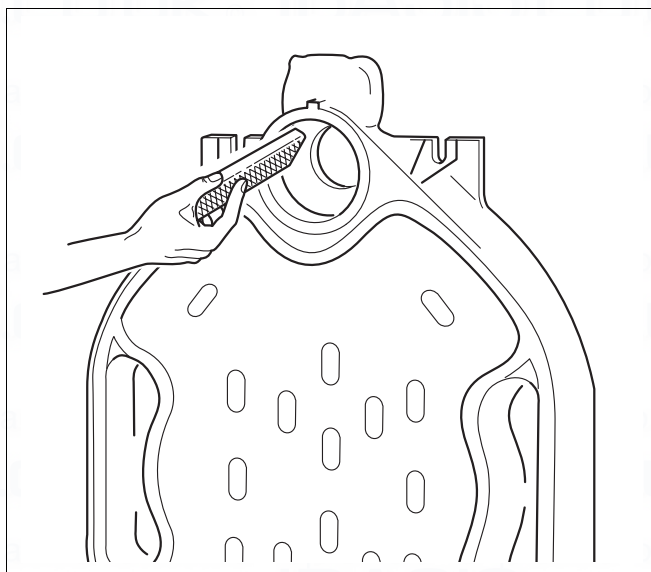

Fig. 7 Filing off flash
- ▶ File down any burrs on the hubs (Fig. 7).
- ▶ File down any burrs on the hubs (as shown in Fig. 7).